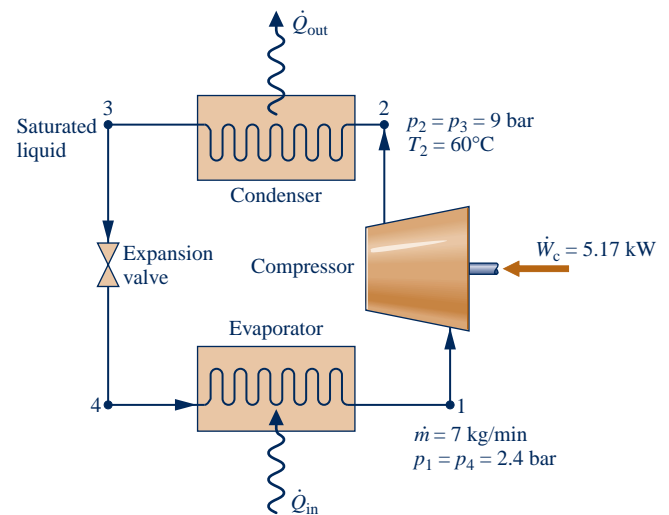

Fig. P6.161
- 6.161** Figure P6.161 provides the schematic of a heat pump using Refrigerant 134a as the working fluid, together with steady-state data at key points. The mass flow rate of the refrigerant is 7 kg/min, and the power input to the compressor is 5.17 kW. (a) Determine the coefficient of performance for the heat pump. (b) If the valve were replaced by a turbine, power could be produced, thereby reducing the power requirement of the heat pump system. Would you recommend this *power-saving* measure? Explain.